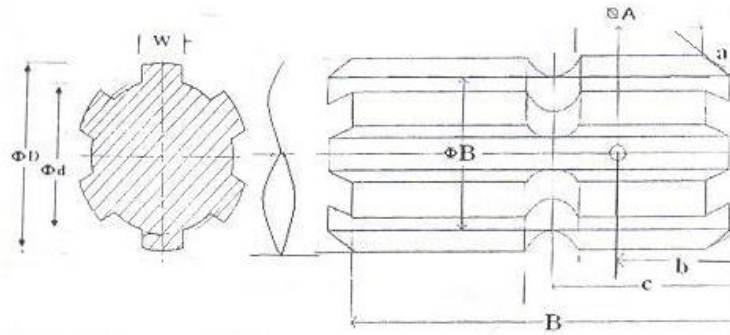

Fig. 4: Dimension of Implement Power Input Shaft
4.2.7.1 Splined end of digger input shaft (Refer Fig. 4):